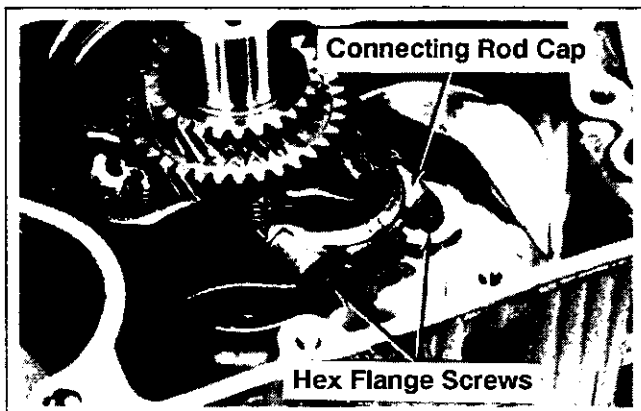

Figure 11-9. Installing Connecting Rod Fasteners.
5. Install the hex flange screws and torque in increments to **22.6 N·m (200 lbf·in)**. See Figure 11-9.